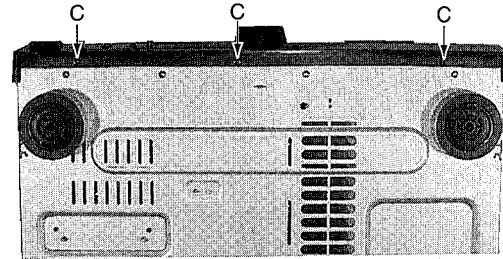

Fig.2
2. Remove 3 screws C on the bottom side and 3 screws D on the top side. (Fig.2,3)